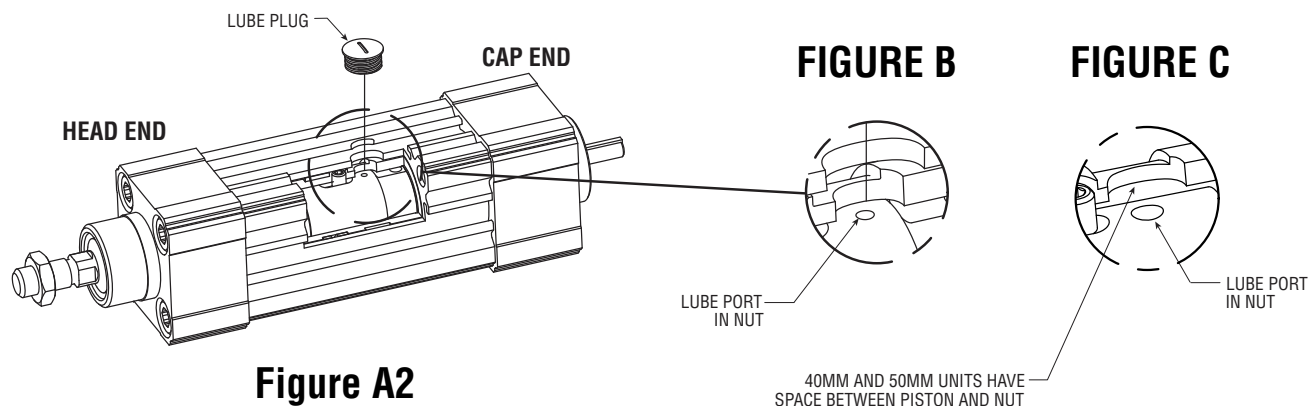

Figure A2
2. ROTATING (ECVR) UNITS: Fully retract the cylinder and rotate the rod clockwise until the LUBE PORT in piston is accessible. (Figure A2) This step may require disengagement of the motor brake or attached load.
3. Using grease gun, pump the recommended grease into LUBE PORT in the PISTON (Figure A2). Be sure to lubricate the indicated LUBE PORT in the PISTON.